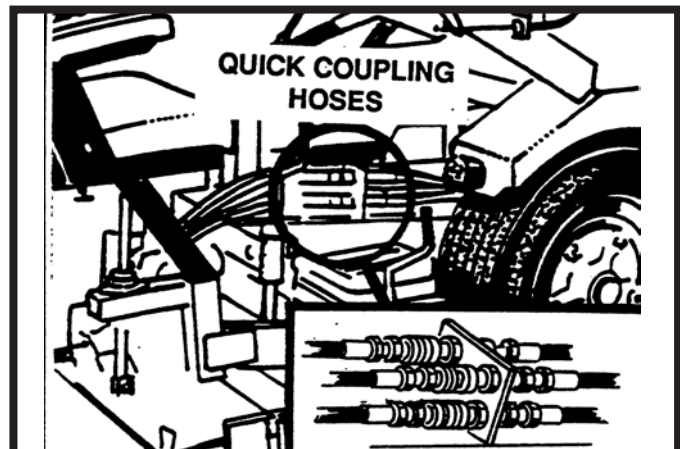

Figure 19
2. Disconnect the four quick coupling hydraulic hoses on the screed and draw bar. See figure 19.